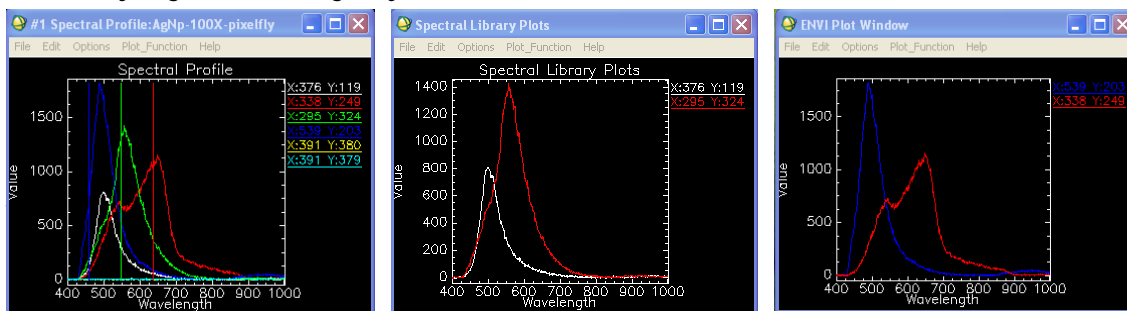

Figure 6. Input Base Library, External Source Library and Filtered library
12. Below are the spectral curves from the input Base Library, External Source Library and the Filtered Library (see Figure 6). The Input Base Library (left) containing four curves, two which are undesired, the External Library (middle) containing only the undesired curves, and the filtered Library (right) containing only the desired curves.